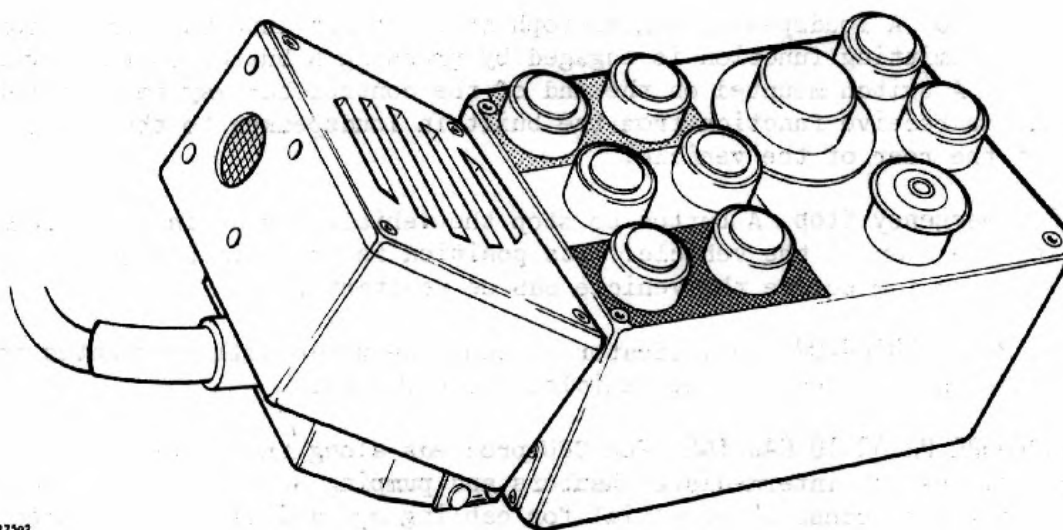

FIG. 5 PORTABLE CONTROL BOX
5.4 Boom Controls These are mounted on the remote control box (Fig 5).